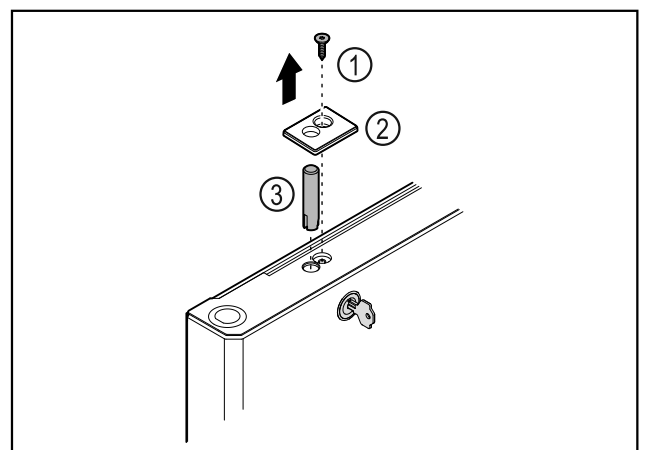

Fig. 41
- ▶ Remove the screw Fig. 41 (1).
- ▶ Unlatch the cover Fig. 41 (2) with a small screwdriver and remove it.
- ▶ Pull out the lock bolt Fig. 41 (3).